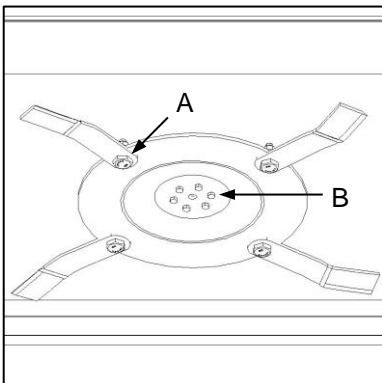
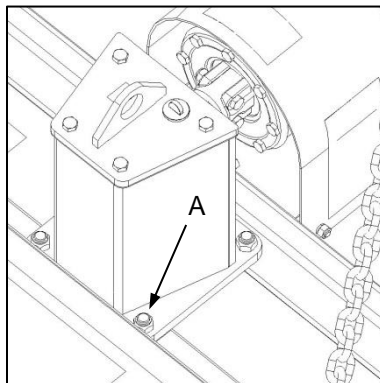
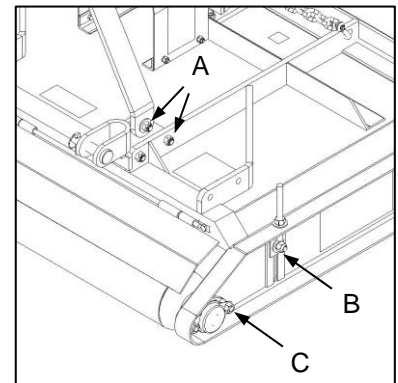

Fig. 1
Fig. 2
Fig. 3
- ✔ Check all fasteners for tightness. This includes special attention to safety-critical fasteners such as blade bolts and nuts (Fig. 1-A), cutting gear mounting bolts (Fig. 1-B), gearbox mounting bolts (Fig. 2-A), topmast mounting and pivot bolts (Fig. 3-A) and side panel retaining bolts (Fig. 3-B).
- ✔ Check bearing unit retainer bolts (Fig. 3-C) and ensure that protective covers are in place.
- ✔ Verseker dat alle hegstukke vas is. Dit sluit in spesiale aandag aan veiligheidskritieke hegstukke soos lem-boute en -moere (Fig. 1-A), snymeganismemonteerboute (Fig. 1-B), ratkasmonterboute (Fig. 2-A), topmasmonter- en -spilboute (Fig. 3-A) en sypaneelmonterboute (Fig. 3-B).
- ✔ Gaan koeëllaareenheid-keerboute (Fig. 3-C) na en verseker dat beskermende bedekkings in posisie is.